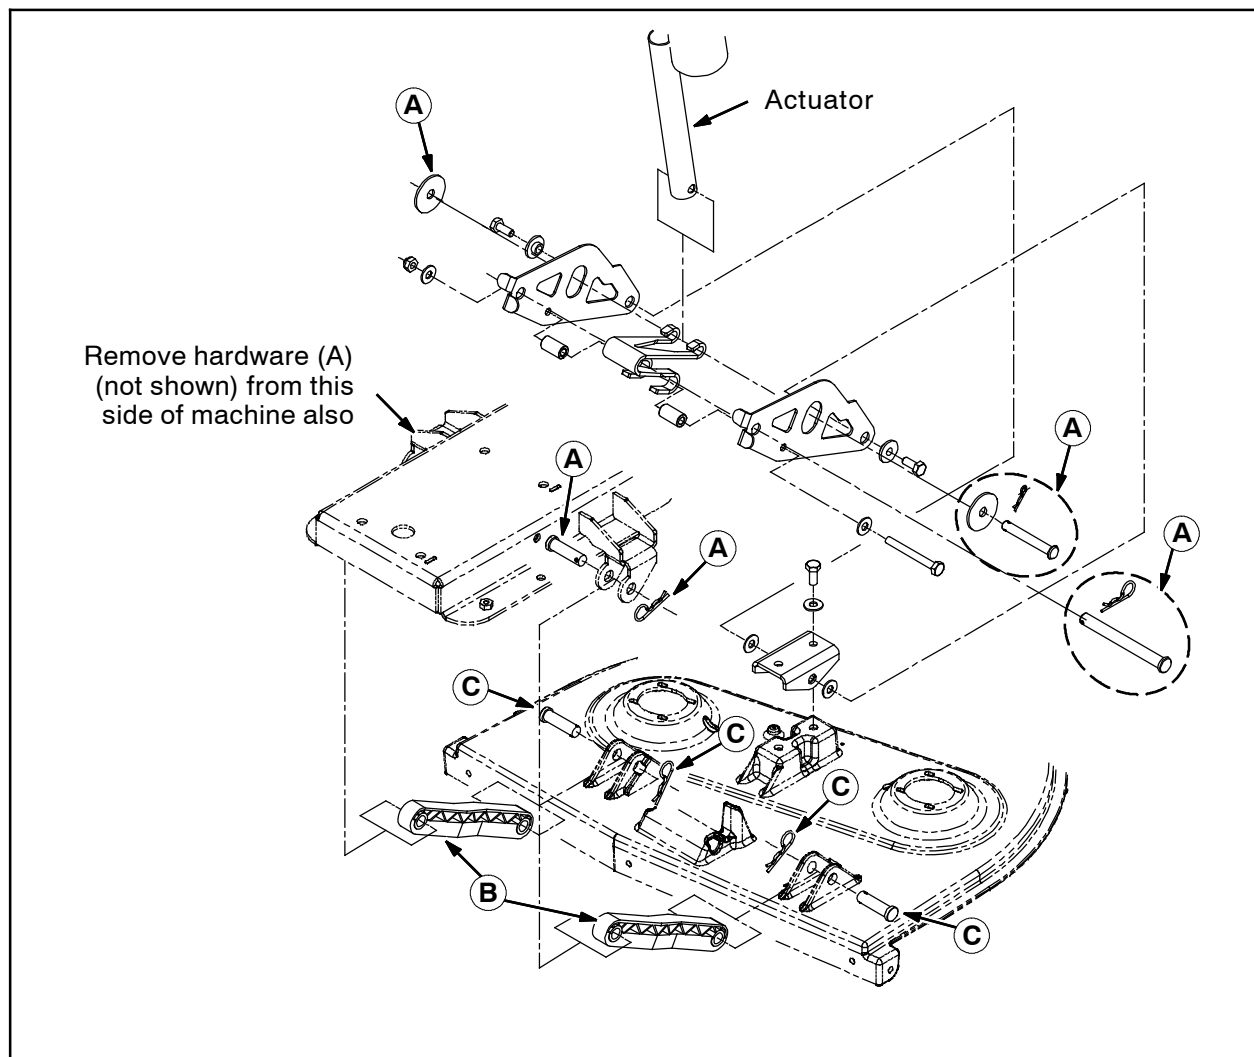

FIG. 2
9. Remove the hardware (A) holding the scrub head to the machine and slide the scrub head from under the machine. Set the hardware aside. Refer to Fig. 2.
10. Remove the lift arms (B) from the scrub head. Set the lift arms and hardware (C) aside. Refer to Fig. 2.
2. Use the saved hardware (C) to install the lift arms (B) onto the new scrub head assembly. Refer to Fig. 2.
4. Position the scrub head under the machine and use the saved hardware (A) to install the scrub head onto the machine. Refer to Fig. 2.